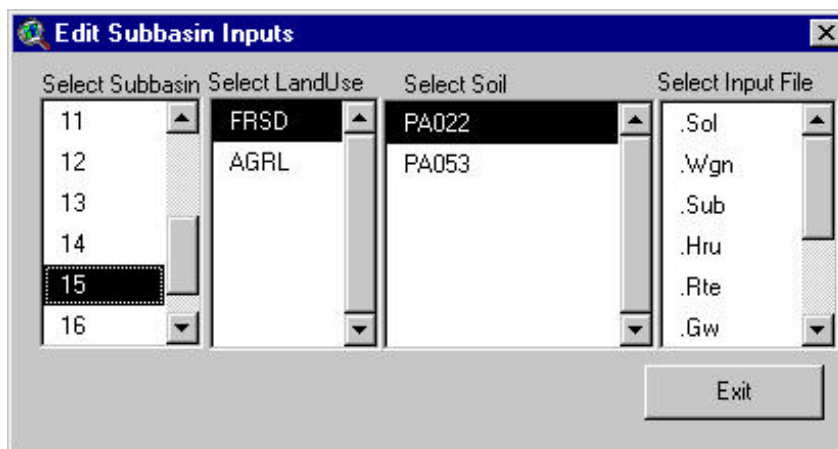

Figure 4.34
- ii. If the mouse cursor was located over any subbasin area when right clicked, the Edit Subbasin Inputs dialog pops up with the subbasin number selected (Figure 4.34).